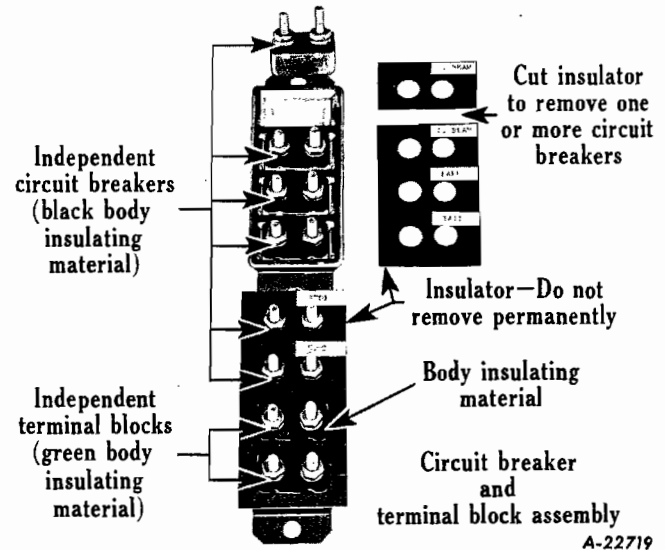

Fig. 8 - Circuit breakers.
Six (6) circuit breakers and two (2) terminal blocks are included in the assembly as illustrated in Fig. 8, and are located on the vehicle at the engine side of the cab dash panel. The circuit breakers and terminal blocks are similar in outward appearance but different in inward construction and function. Circuit
Individual replacement of a circuit breaker can be accomplished by disconnecting cables and cutting the insulator between the circuit breakers as shown in Fig. 8. Remove circuit breaker from frame by pulling on terminal screws with pliers. To install, press circuit breaker into frame by hand.